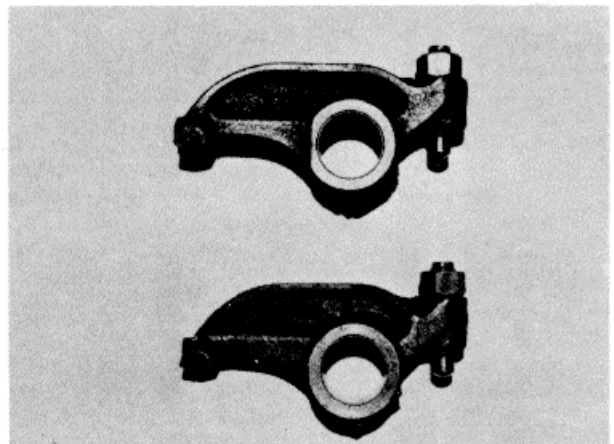

Fig. 3-3, (V40305). Magnetic inspection crack indication
1. Check for surface imperfections by magnetic inspection. Apply coil magnetization, amperage at 300 to 500 with residual Magnaglo. See Fig. 3-3 for most likely areas. Demagnetize after checking.